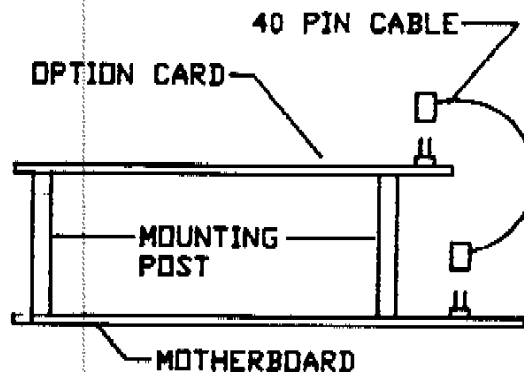

Figure 2-11 Correct Connector Alignment
5. Carefully connect the option card to the main board using the cable provided. NOTE: It is very easy to misalign this cable and damage will result from misalignment, so please double check this connection. See figure 2.11